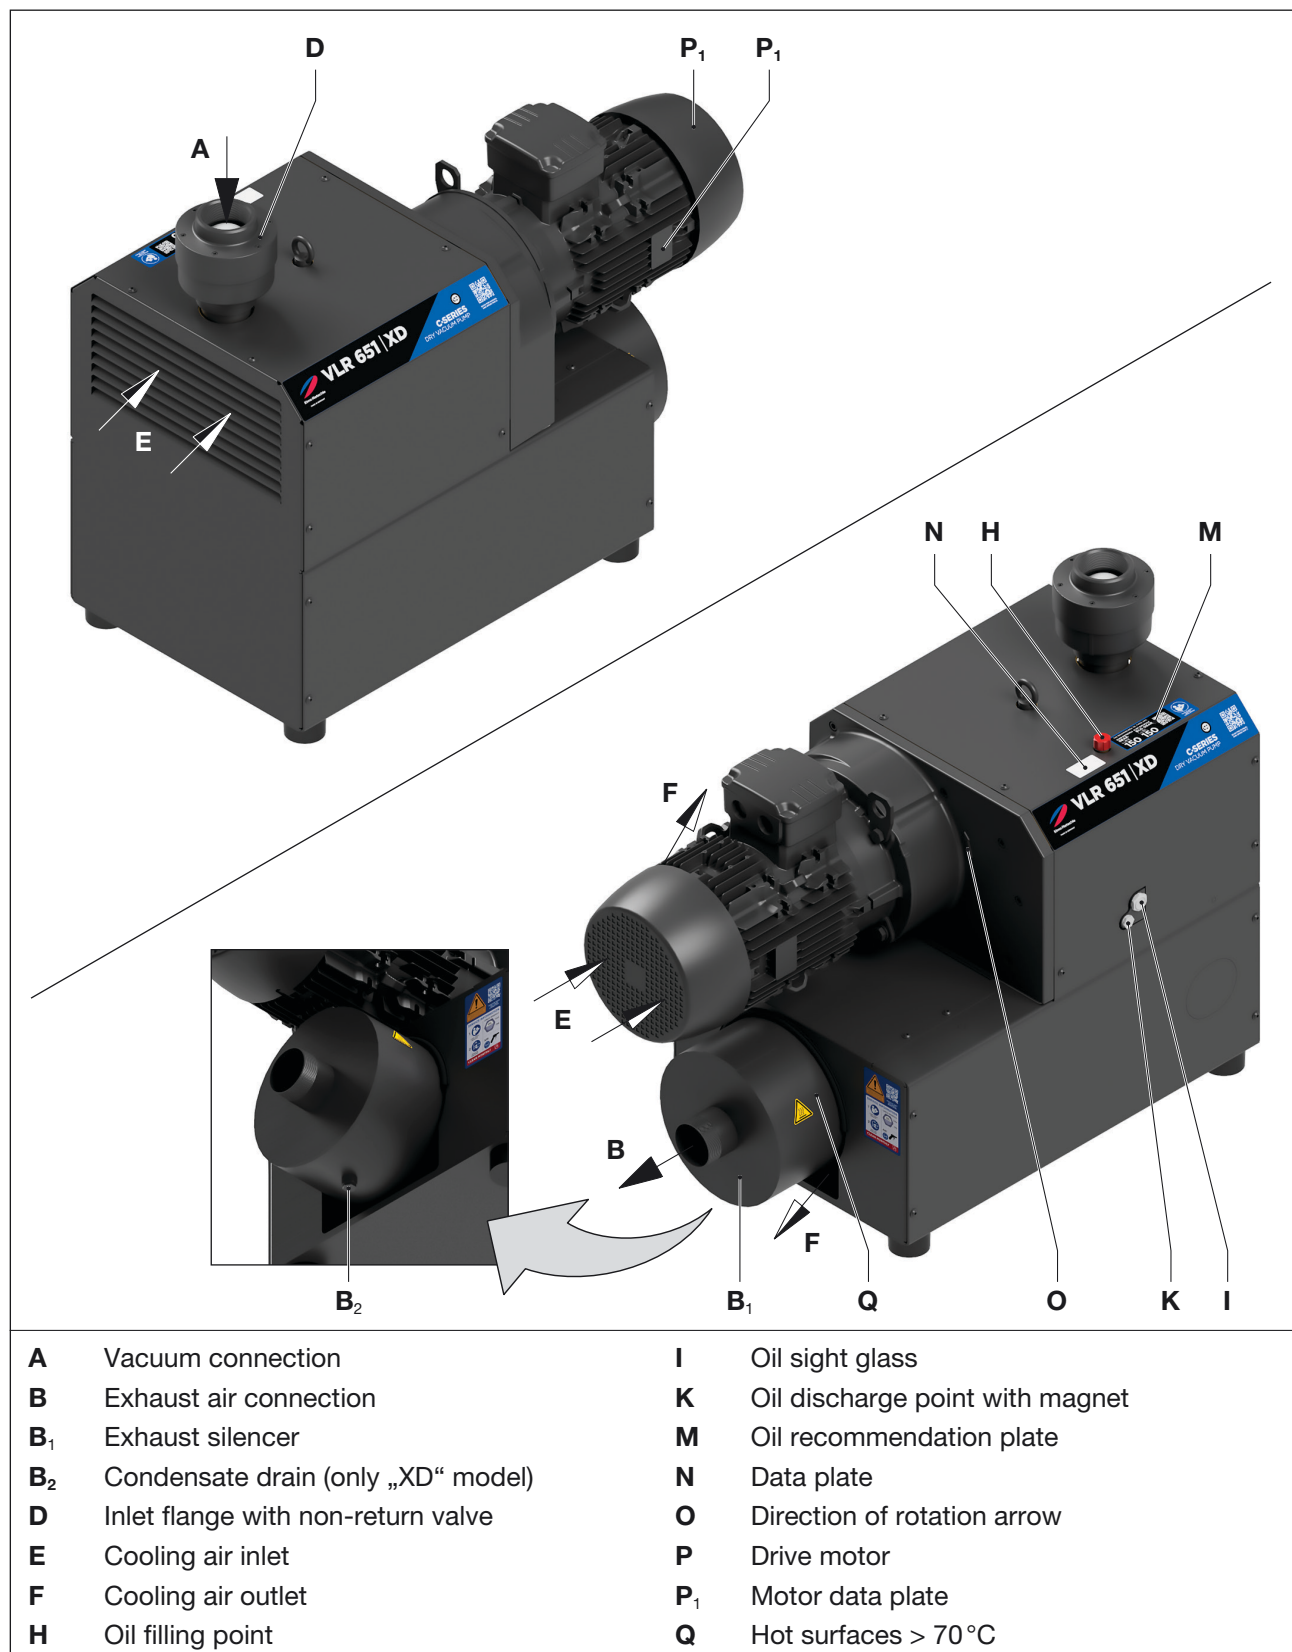

Fig. 2 Vacuum pumps C-VLR 651 XD (The models 401 and 501 as well as variant CD are built in the same way)
The C-VLR 401 | 501 | 651 have a connection flange on the inlet side and an exhaust silencer (Fig. 2/B.) on the pressure side. The intake air is cleaned by a mesh filter. An integral non-return valve prevents the evacuated system from being ventilated after the pump has stopped. A vacuum relief valve is incorporated into the machine.
The C-VLR 401 | 501 | 651 are enclosed in an insulation hood. In order to dissipate compression heat, the cooling air is sucked through between the compressor and the hood using a drum fan that sucks in the fresh cooling air (Fig. 2/E) and discharges the heated air out of the cooling air outlet (Fig. 2/F). It is driven via a coupling by a flanged, three-phase standard motor.
- Oil filling point (Fig. 2/H), oil sight glasses (Fig. 2/I) and oil drain (Fig. 2/K) must easily be accessible.
- Remove the blind plug/adhesive film on the vacuum connection (Fig. 2/A) and exhaust air outlet (Fig. 2/B).
- Connect the pipes with the vacuum connection (Fig. 2/A).
- The exhausted air can be blown out through the exhaust air outlet (Fig. 2/B) on the exhaust silencer (Fig. 2/B₁) or led away using a hose or pipeline.
- Check the lubricating oil level at the oil sight glass (Fig. 2/I).and top up if necessary.